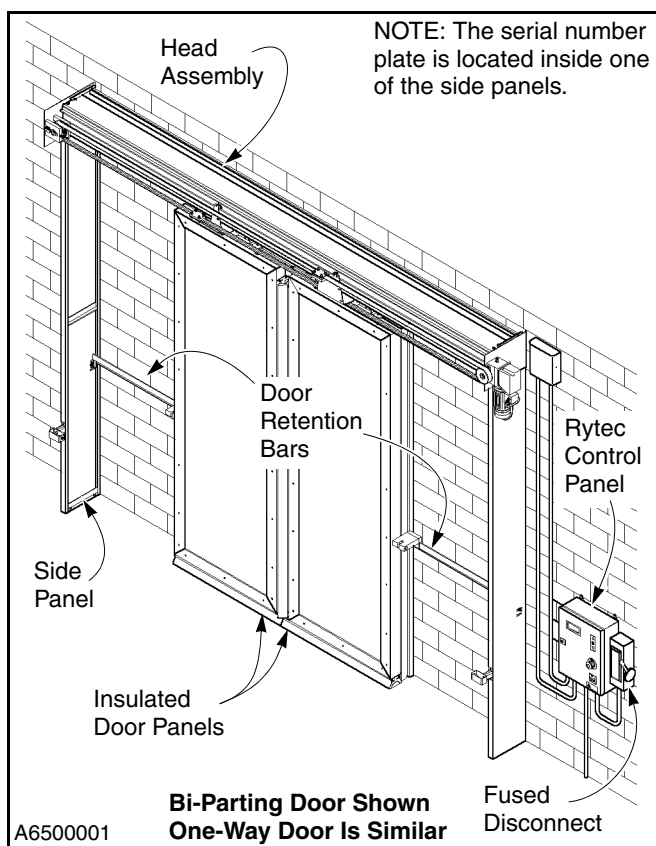

Figure 49
3. To ensure the correct parts are shipped, please include the serial number of your door with the order. The serial number is located inside one of the side panels. (See Figure 49.)